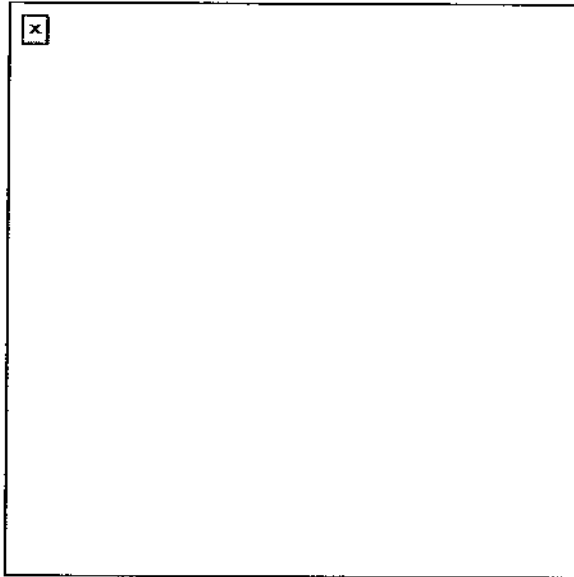

Figure 24. Insertion of the bolt and backplate assembly.
- (2) Slide the primary drive lever lock to the rear and engage the pivot post lever through the holes in the receiver and vertical cam.
- (3) Slide the primary drive lever lock forward. (The primary drive lever lock is located on the vertical cam just beneath the top of the receiver).
- j. Insert the bolt and backplate assembly (Figure 24).